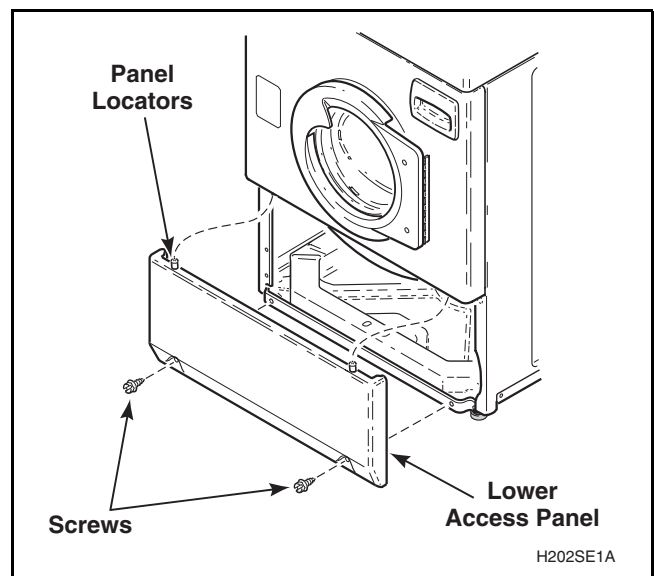

Figure 9
- While supporting the lower access panel, remove two screws from bottom edge of lower access panel. Refer to *Figure 9*.
- a. While supporting lower access panel, remove two screws from bottom edge of panel and remove panel. Refer to *Figure 9*.
- (1) While supporting lower access panel, remove two screws from bottom edge of panel and remove panel. Refer to *Figure 9*.